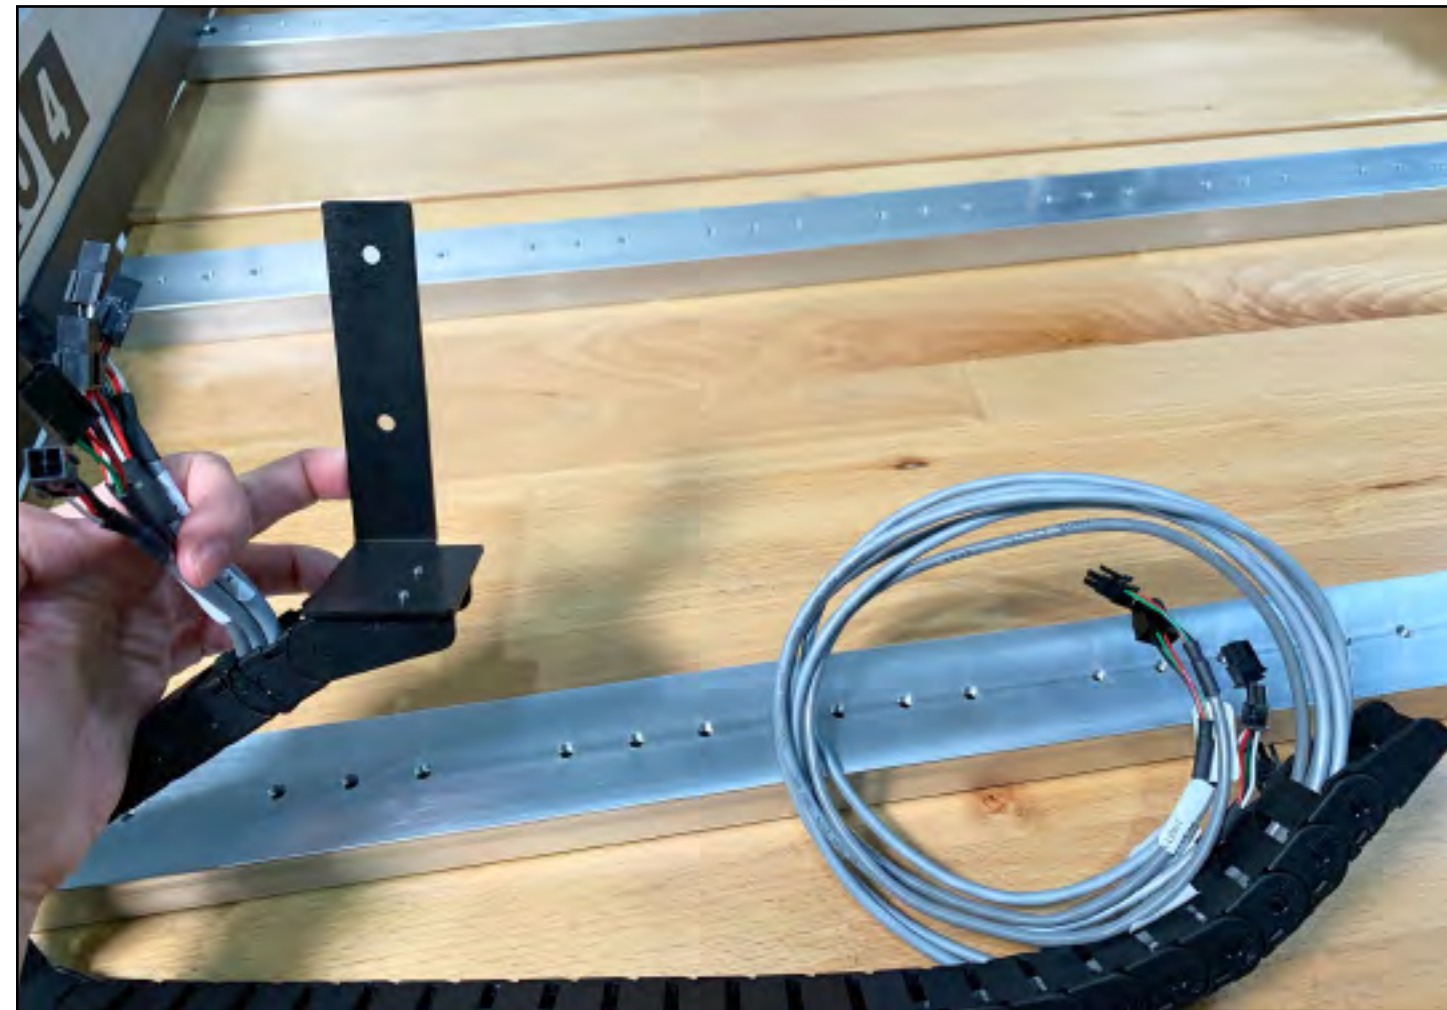

Figure 6-4
1. Position the X/Y transition bracket on the head of the Y-Axis drag chain. See **Fig. 6-4**.
2. Use a 2mm hex key and two (2) M3×6mm BHCS to secure the bracket. Fully tighten.